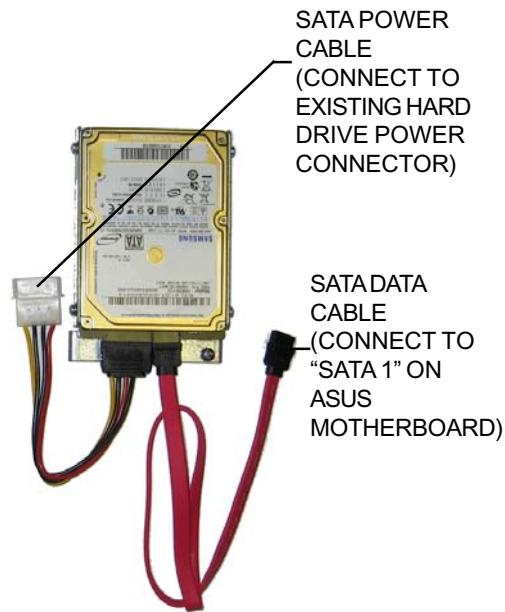

FIGURE 4 - NEW SATA HARD DRIVE ASSEMBLY FOR GAMES WITH ASUS MOTHERBOARDS
- 10b. **ASUS motherboards ONLY:** Connect the free end of the SATA power cable (installed in step 7b) to the hard drive as shown in Figure 4. Connect the provided SATA data cable to the hard drive as shown in Figure 4 and connect the other end of this cable to the "SATA 1" header on the motherboard (see Figure 2).
- 12b. **ASUS motherboards ONLY:** Connect one end of the provided SATA data cable to the "SATA 1" header on the motherboard (see Figure 2). Hold the electronics box cover up to the electronics box and route the free ends of both the SATA power cable (connected in step 9b) and data cable through the access hole to the left of the hard drive. Also route the 2 OSD board connections through the access hole to the right of the hard drive. Then, connect the hard drive cables to the hard drive as shown in Figure 4.